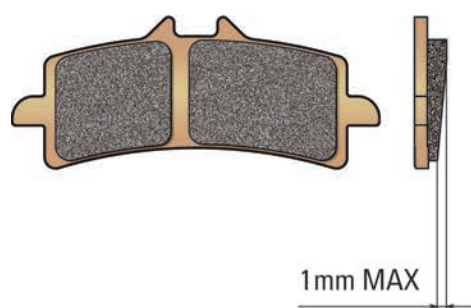

Fig. 6
- Pad tangential wear difference must not exceed 1mm MAX (see fig. 6).